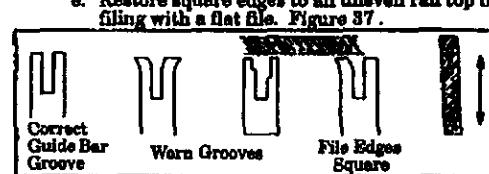

Figure 37
- guide bar is bent or cracked. Figure 37.
- d. Remove burns by filing side edges of guide bar grooves square with flat file. Figure 37.
e. Restore square edges to an uneven rail top by filing with a flat file. Figure 37.